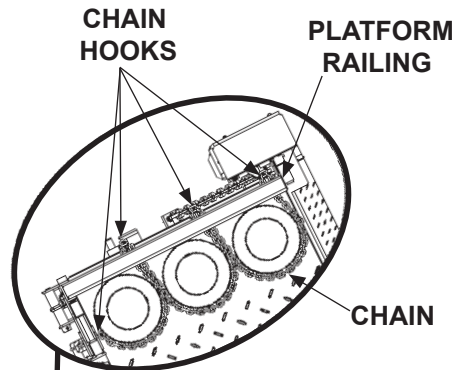

FIG. 19-1A
2. Move loads across the ramp (**FIG. 19-1**) to the platform, but never rest or raise loads on the ramp. Make sure gas bottles rest against platform railing (**FIG. 19-1A**) and angle support (**FIG. 19-1B**).
3. Wrap chain around each gas bottle and hook onto platform railing as shown in **FIG. 19-1A**. If standing on platform with the load, stand in the footprint area shown (**FIG. 19-1**) and comply with the preceding **WARNING**.